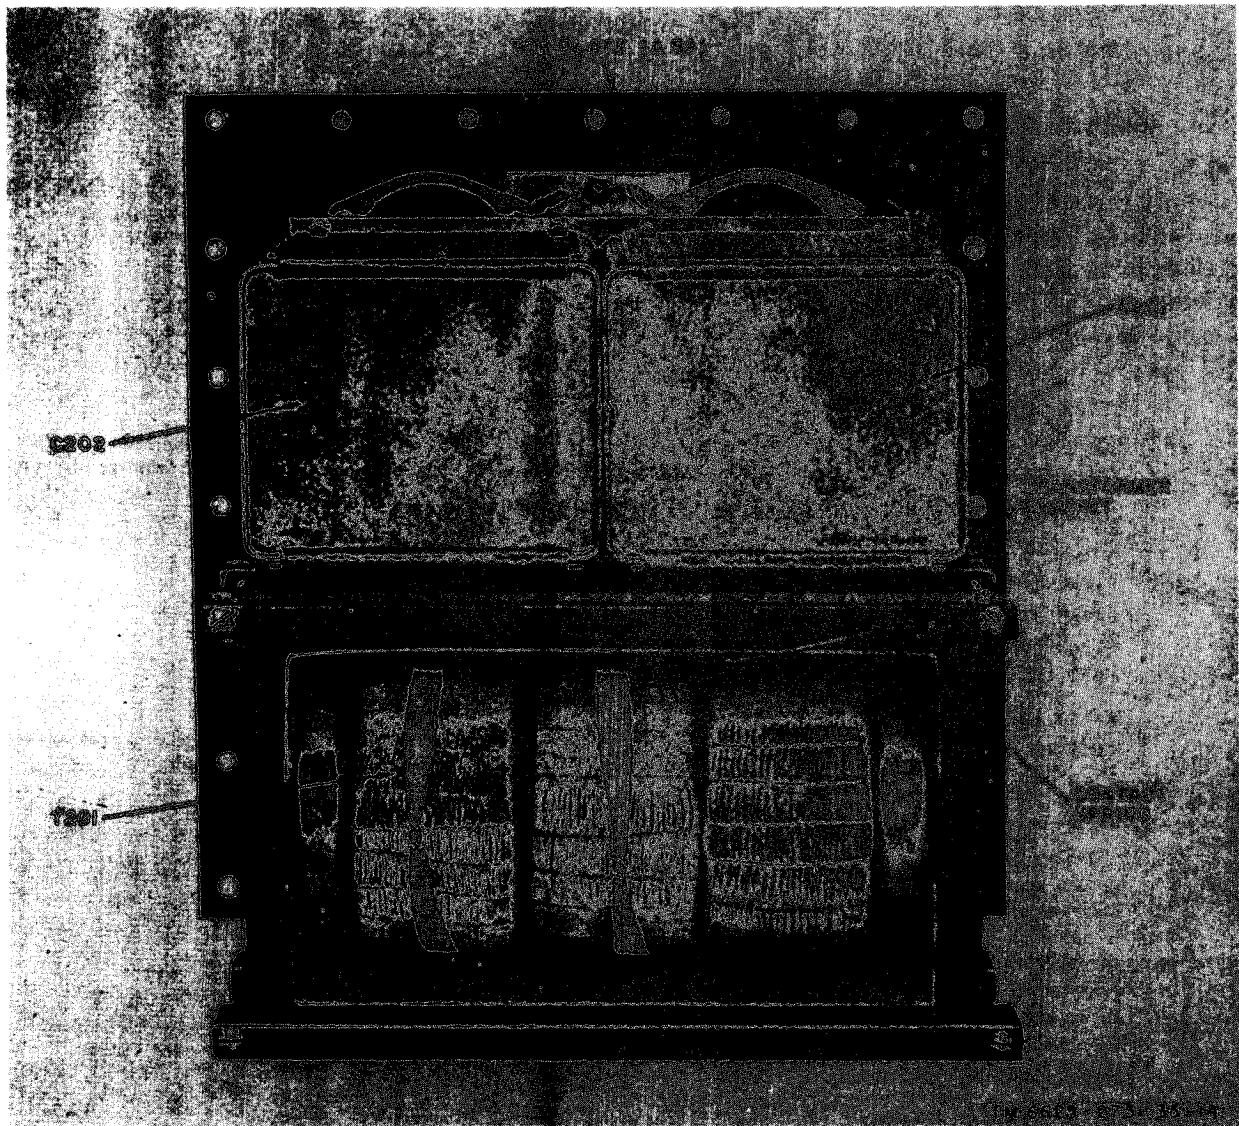

Figure 10. High-voltage rectifier removed from tank—bottom view, parts location.
- (1) Place a new gasket on the tank flange.
- (2) Check to see that the contact spring (fig. 10) protrudes approximately $1\frac{1}{4}$ inches from the transformer bracket; if necessary, bend the contact spring.
- (8) Remove the bolts, spacers, and associated washers and nuts that secure transformer T201 to the transformer plate; remove the transformer from the equipment.
- (9) Remove the contact spring (fig. 10) from the bottom of the transformer bracket.
- (1) Install the contact spring at the bottom of the transformer bracket (fig. 10). Check to be sure that the contact spring protrudes approximately 1¼ inches.